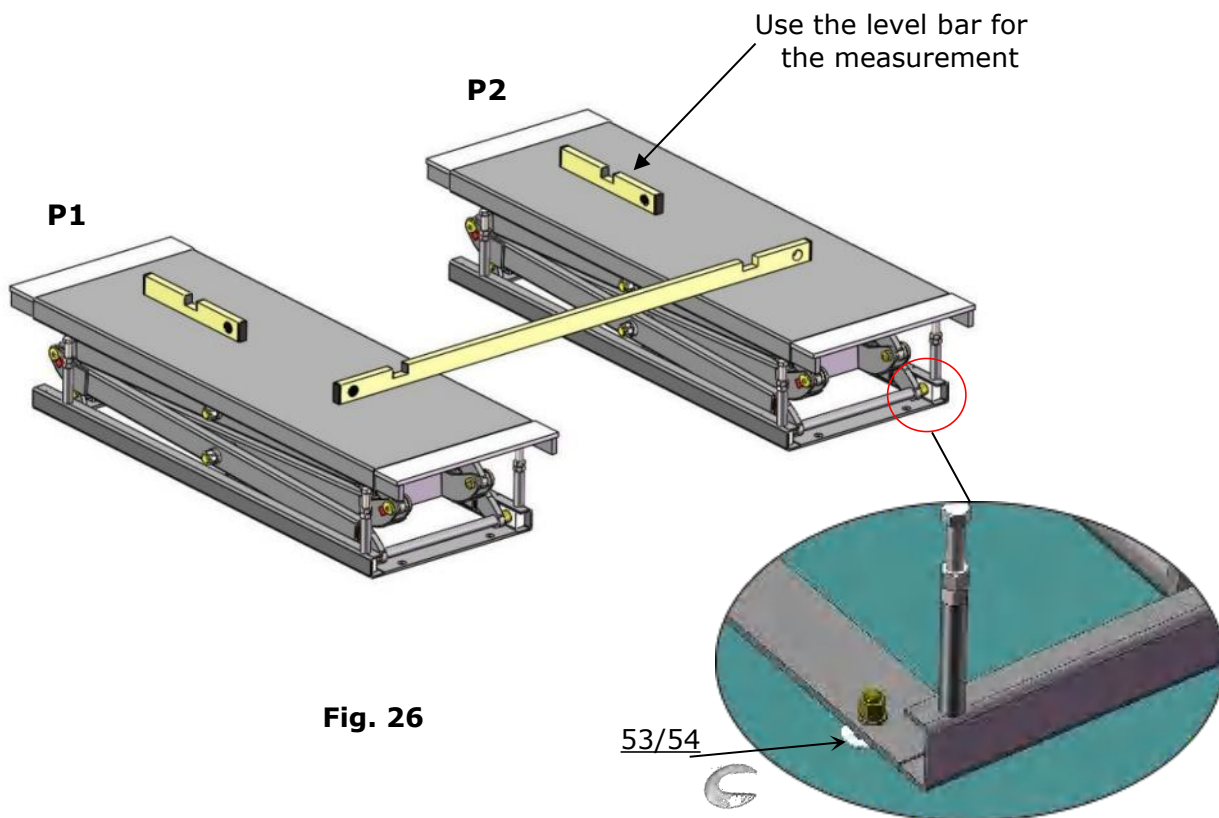

Fig. 26
4. Check by level bar and use the shim to adjust the platforms until two platforms are in the same level. Tighten the anchor bolts with spanner after leveling. (**See Fig.26**)